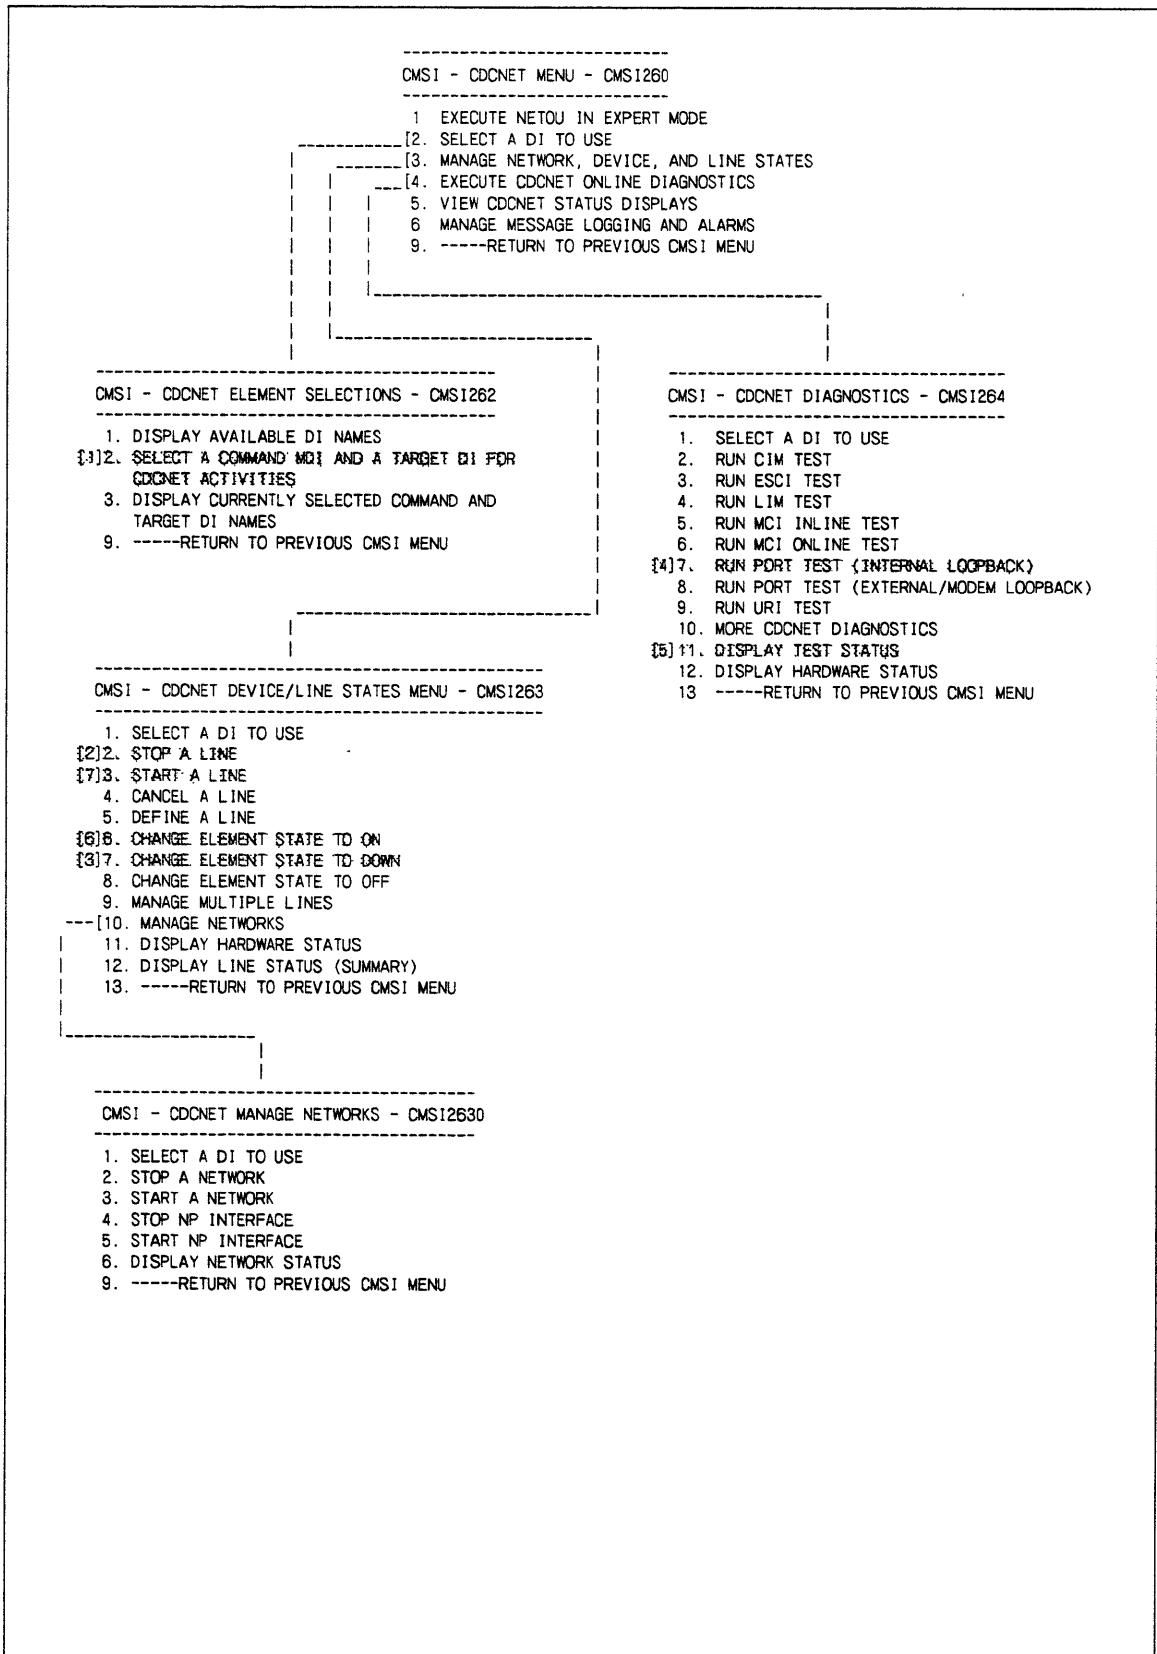

Figure 6-11. CMSI Menus for Port Online Test
The following shows the sequence of actions necessary to run the port online test. Each menu choice is shown on figure 6-11 and described below. The purpose of this topic is to serve as a quick reference for the most frequently used menu selections. See chapter 4 for a complete description of CMSI. Familiarize yourself with the port test notes and procedure given earlier in this topic before running the test.
- Numbers in this column correspond to the bracketed numbers (for example, [1]) on figure 6-11.